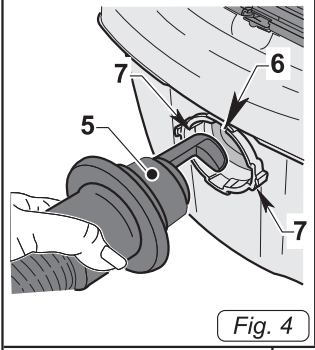

Fig. 4
- Insert the sleeve with bayonet connection (5 Fig.4) into the hole (6 Fig.4) in the container, aligning the connections present in the sleeve with the slots (7 Fig.4) in the hole in the container, then rotate the sleeve clockwise to lock it.